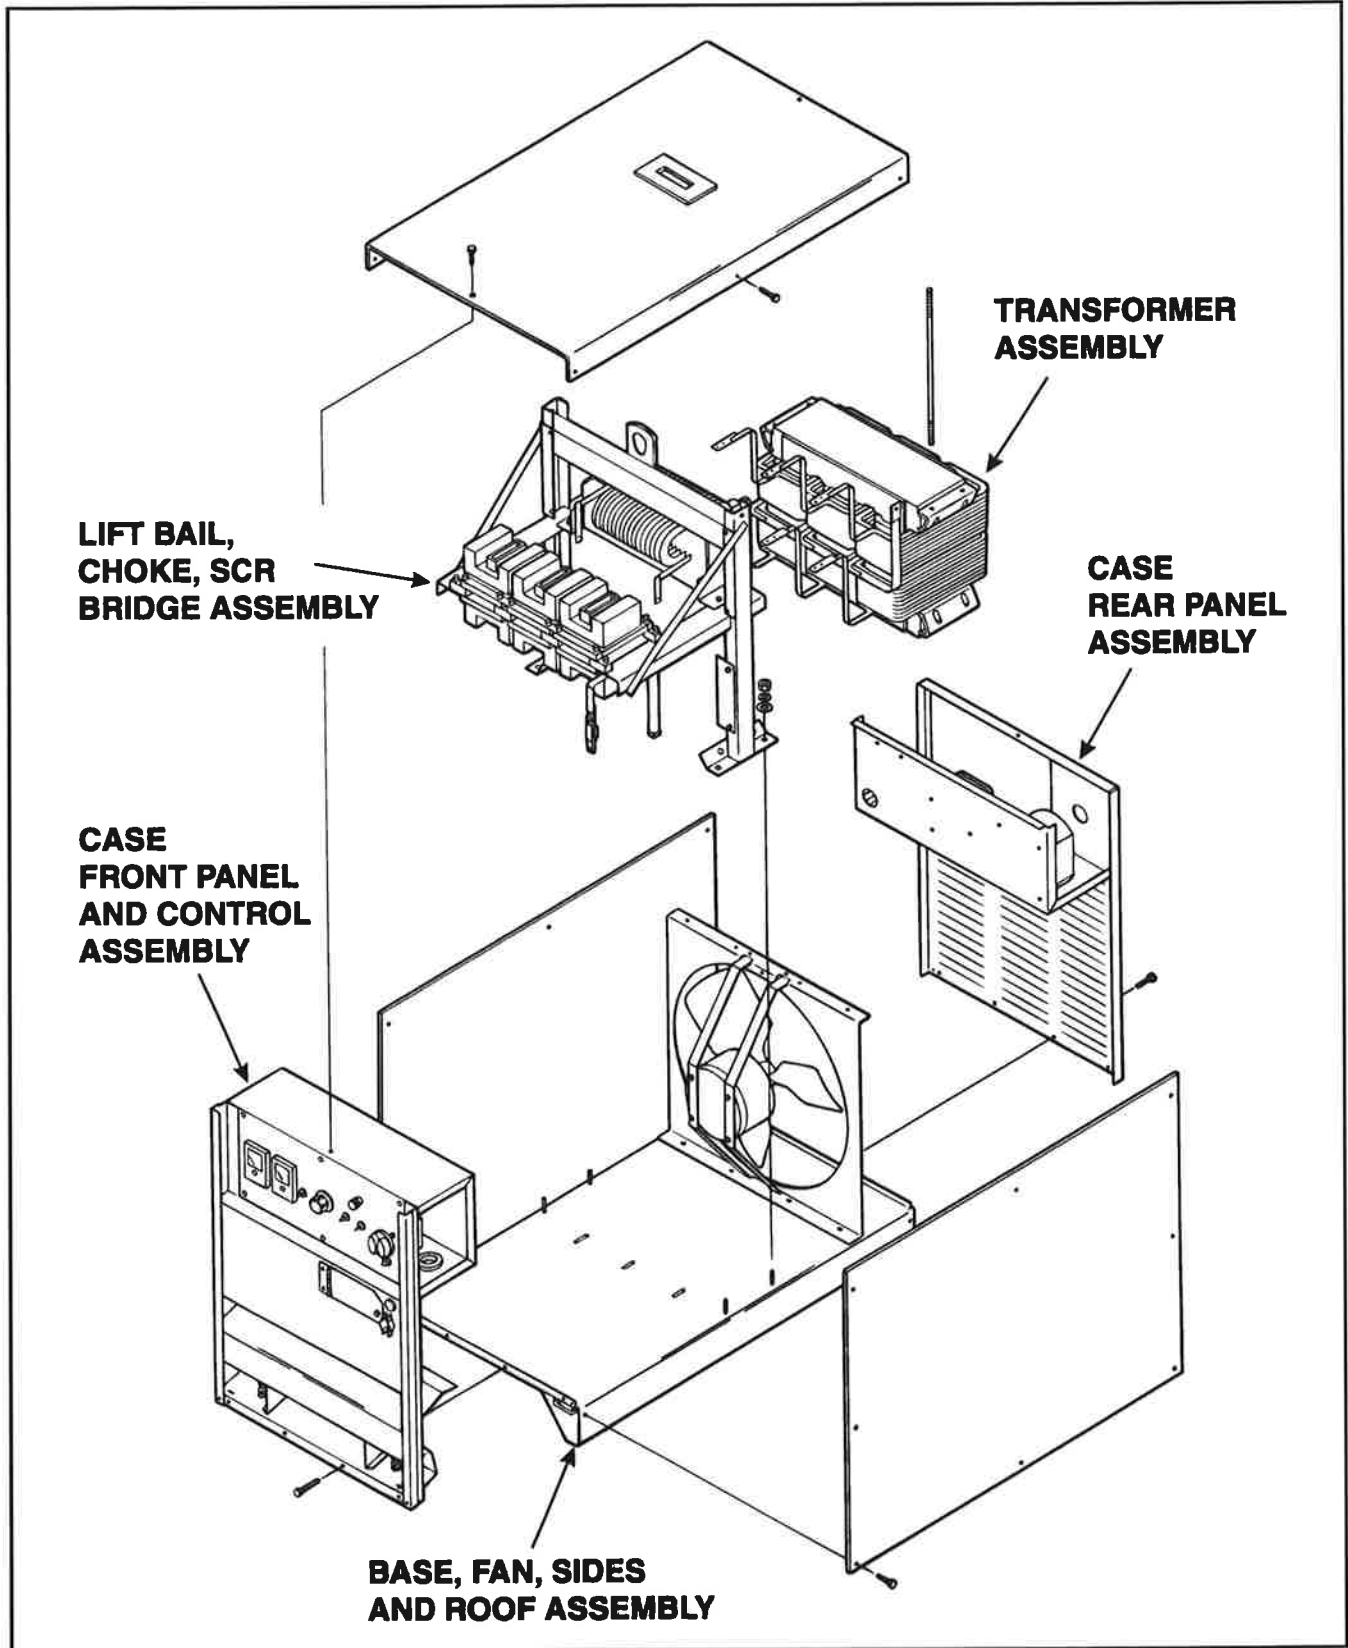

FIGURE D.1 - General Assembly Exploded View
1. Disconnect input AC power supply lines to the machine before performing periodic maintenance, tightening, cleaning, or replacing parts. See Figure D.1
Clean the inside of the machine with low pressure air stream. Clean the following parts. Refer to Figure D.1.